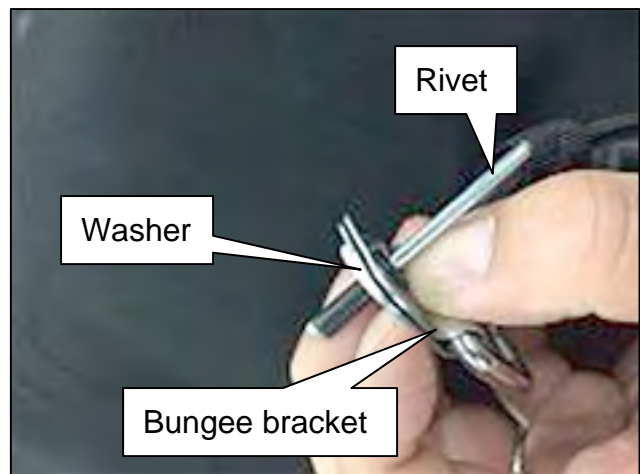

Figure 13
14. Assemble a rivet and a washer (WASH-SPL) onto a bungee bracket (WIRE-HDLNG), as shown in Figure 13.